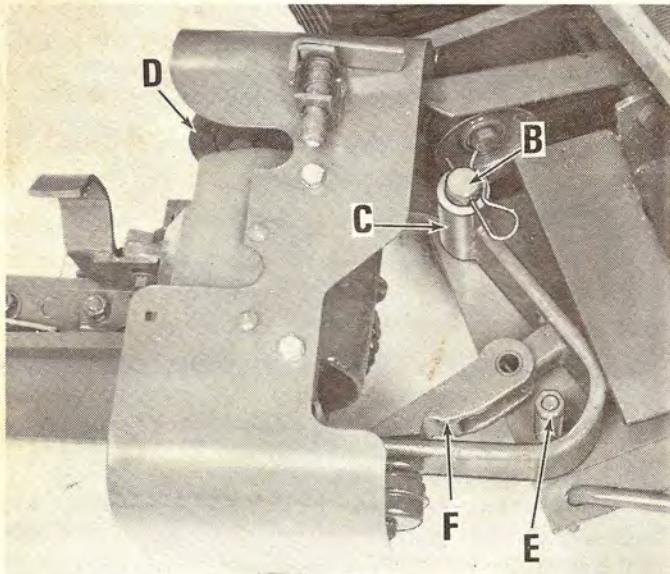

Fig. 10
Lift basic mower and place tube (C) over mounting peg (B). Put washer on peg and secure with hair cotter pin as shown in Fig. 10. Place jackshaft V-belt around flywheel pulley (D). The sickle bar is now in the break-back position. Lock it into operating position by pulling sharply forward on end of sickle bar until bolt (E) is securely in notch of latch (F).